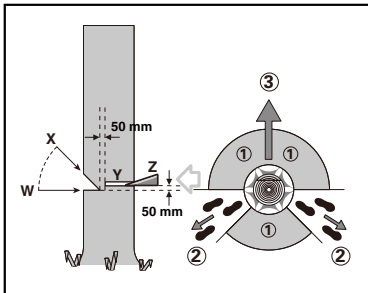

Figure 1
An escape path should be planned and cleared as necessary before cuts are started. The escape path should extend back and diagonally to the rear of the expected line of fall as illustrated in Figure 1.
Make the notch 1/3 the diameter of the tree, perpendicular to the direction of fall as illustrated in Figure 1. Make the lower horizontal notching cut (W) first. This will help to avoid pinching either the saw chain or the guide bar when the second notch (X) is being made.
Make the felling back cut (Y) at least 2" (5 cm) higher than the horizontal notching cut as illustrated in Figure 1. Keep the felling back cut parallel to the horizontal notching cut. Make the felling back cut so enough wood is left to act as a hinge. The hinge wood keeps the tree from twisting and falling in the wrong direction. Do not cut through the hinge.
When the tree begins to fall remove the chainsaw from the cut, stop the motor, put the chainsaw down, then use the retreat path planned (2). Be alert for overhead limbs falling and watch your footing. (See Figure 1.)